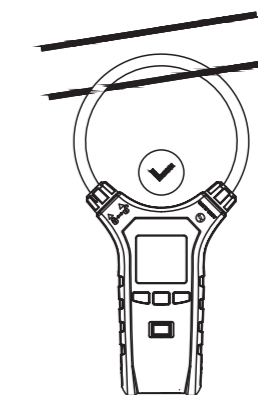

Figure 4
3. Use the measuring head to wrap and lock around the conductor to be measured. (Only one wire can be tested at one time) (See figure 4)